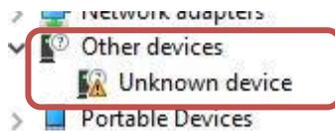

Figure 24 Other devices section
- If the installation was unsuccessful, on the same “Device Manager” under the “Other devices” section an entry for “Unknown Device” will appear with a yellow warning sign (Figure 24). If this is the case, first uninstall everything, refer to page 16 of this manual for **Uninstall instructions**, after that repeat steps **1 through 8** of the Windows 7 installation on **page 8**.